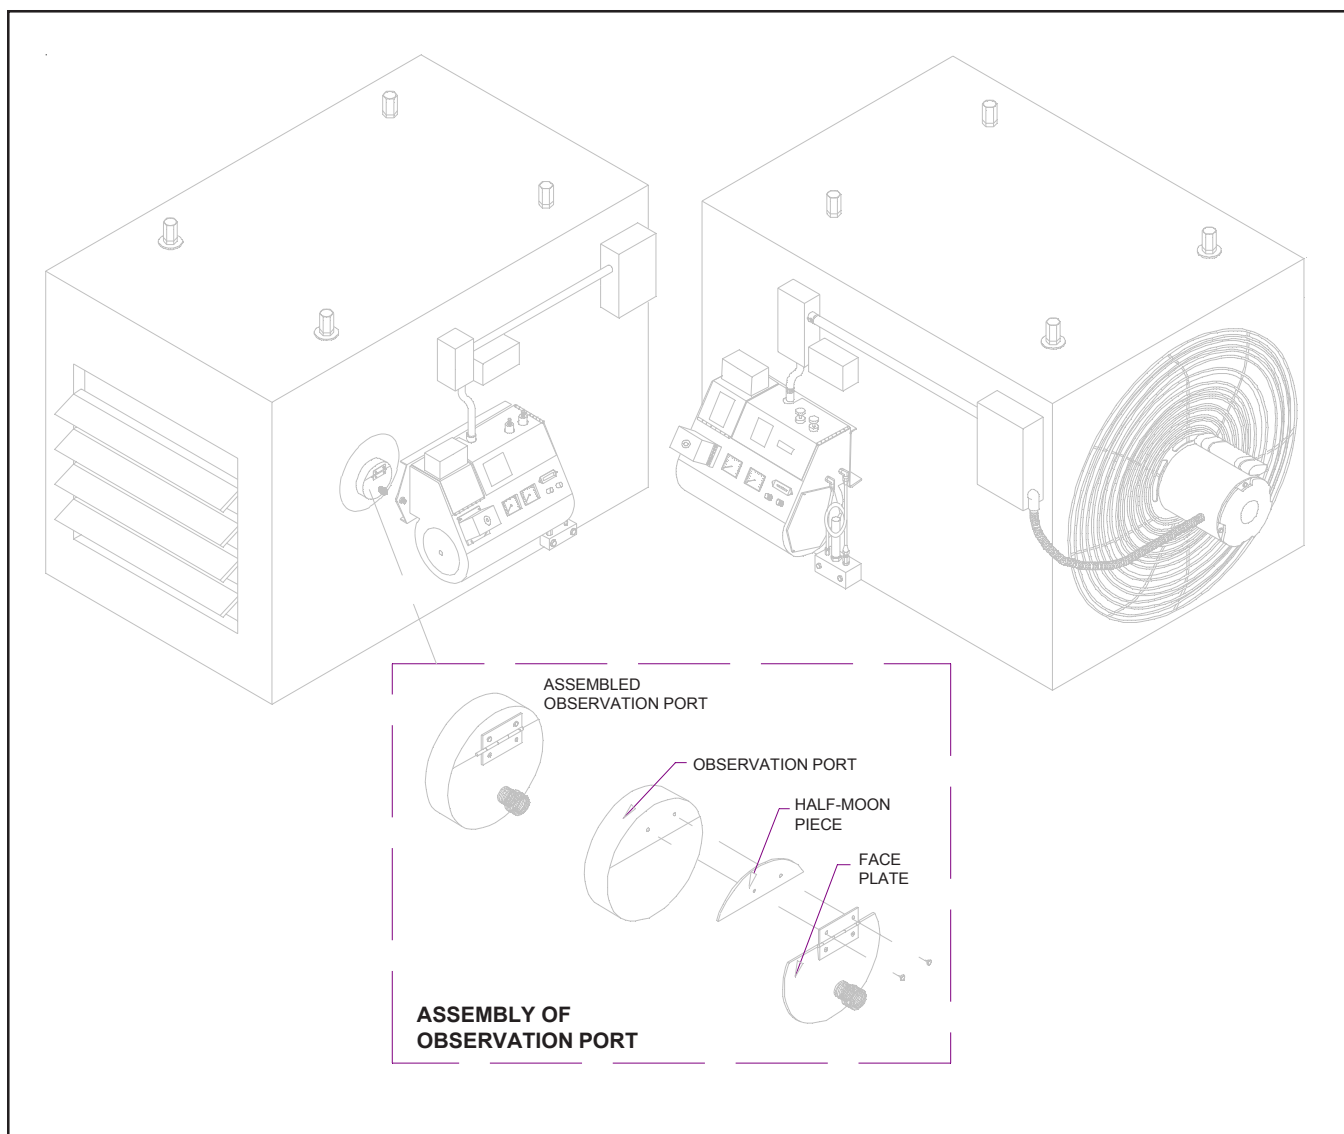

FIGURE 3B - Three-dimensional View - Unit Heater Completely Assembled
1. Refer to Figure 3B.
2. Use a 1/4" nut driver to remove the two (2) self-tapping screws from the half-moon piece.